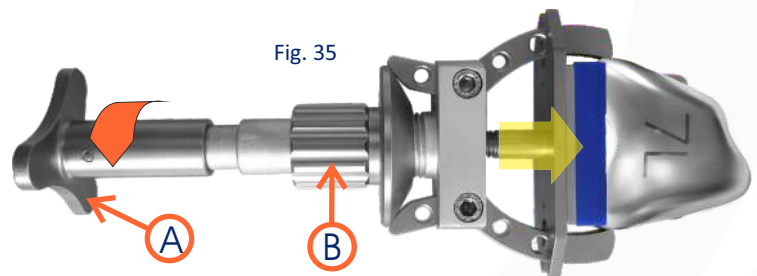

Fig. 35
- ① Mobile Bearing
- ② Fixed Bearing CR
- ③ Fixed Bearing PS
The selected **Trial Femoral component** is secured to the **Femoral Holder (S59153)** by lodging the teeth of its clamps into the lateral niches (Fig. 35), taking care to tighten the posterior knob (A) to push the impacting end against the component. The central knurled knob (B) should not be tightened, but only slightly screwed to prevent accidental opening of the jaws during the impaction.